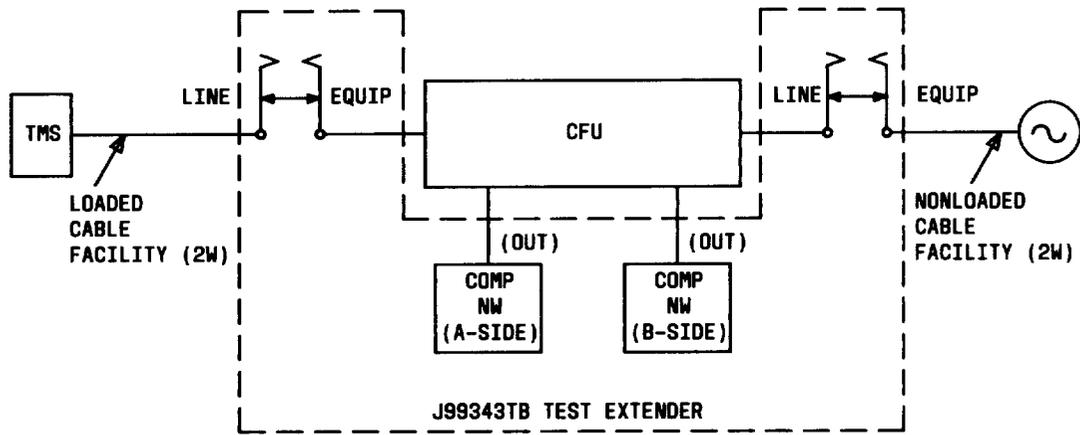
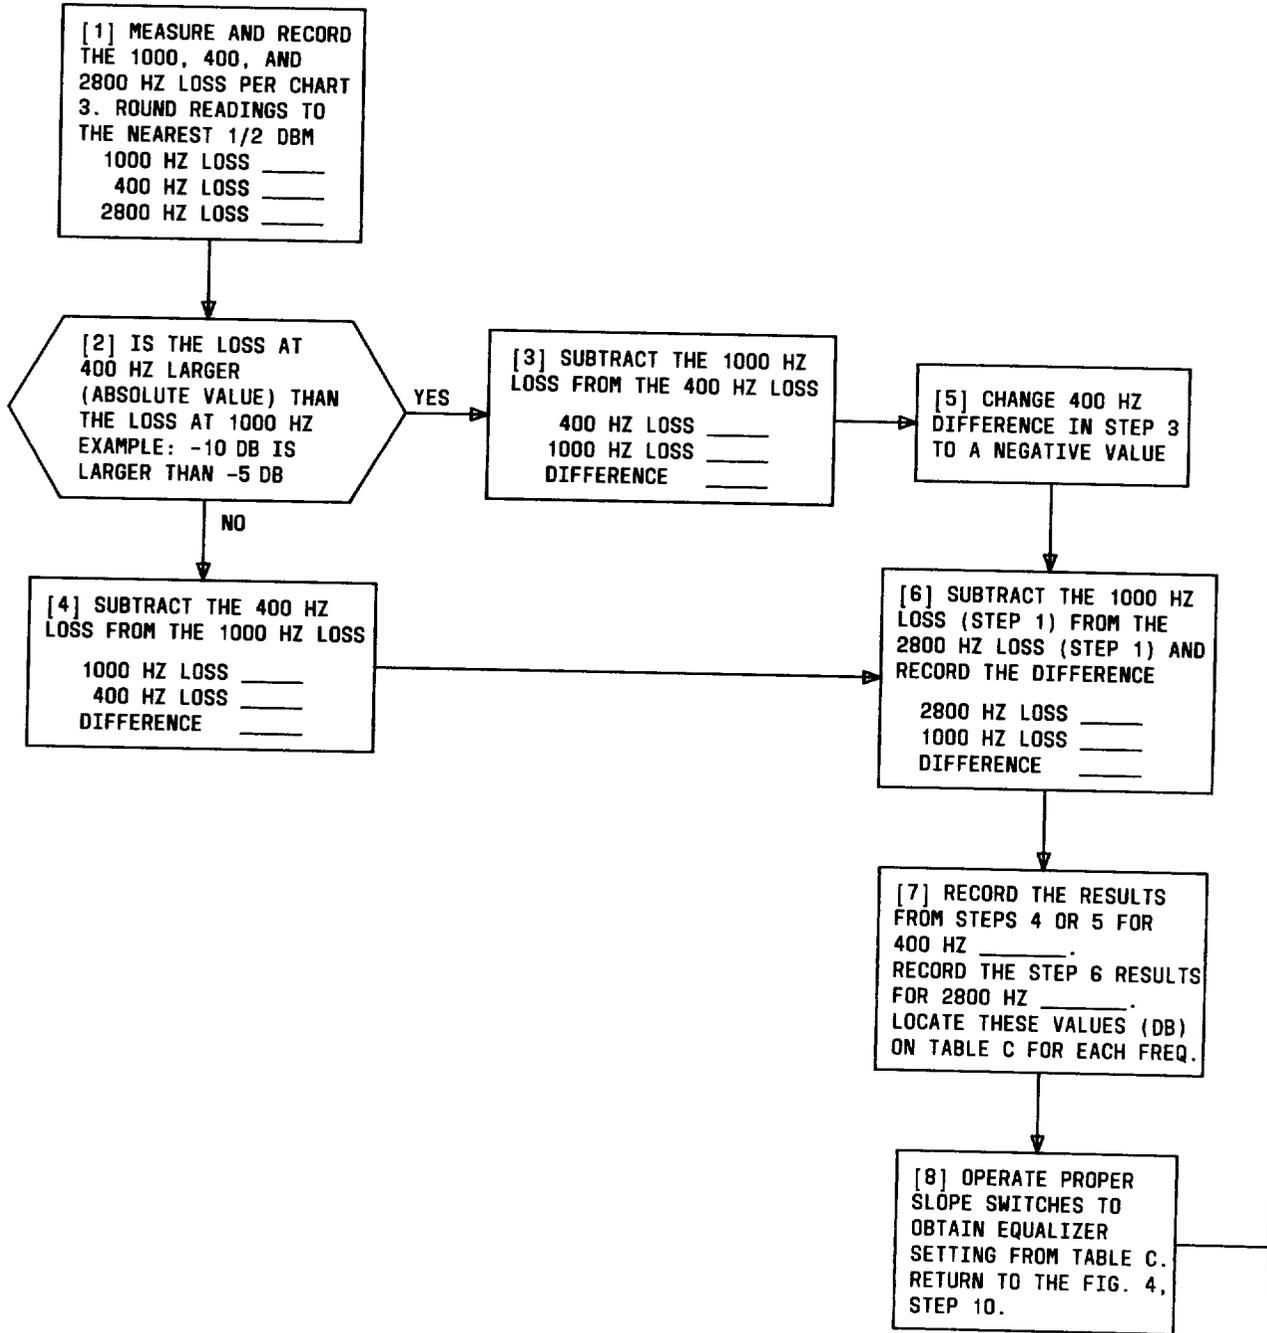

Fig. 9—Typical Test Configuration for Frequency Response Measurements
Fig. 10—Obtaining Equalizer Settings by Measurement
8.02 Cable loss information to calculate the equalizer settings is obtained from the frequency response measurement procedure. Figure 9 is a typical test configuration for obtaining the frequency response measurements and the procedure is given in Part 8B. Once the 400-, 1000-, and 2800-Hz cable loss has been determined, this information should be recorded in Step 1 of Fig. 10. The flowchart (Fig. 10)
8.03 Figure 9 is the typical test configuration for making frequency response measurements on the J99343GG, L1 & L2 and GK repeaters. The following equipment is required for these measurements:
Once the levels at 400, 1000, and 2800 Hz have been obtained, they should be recorded in Step 1 of Fig. 10.
9	For calculation of equalizer settings, record the received levels for 400, 1000, and 2800 Hz in Step 1 of Fig. 10.
8.04 The following is an example of using the procedures in Fig. 10 for obtaining equalizer settings by measurement:
10.02 The following procedure is very similar to the frequency response measurement given in Part 8. For this reason, the test configuration given in Fig. 9 and associated test equipment (paragraph 8.03) are the same for the roll-off measurements.
11.03 All measurements in the procedures are end-to-end as in Part 10 and Fig. 9.